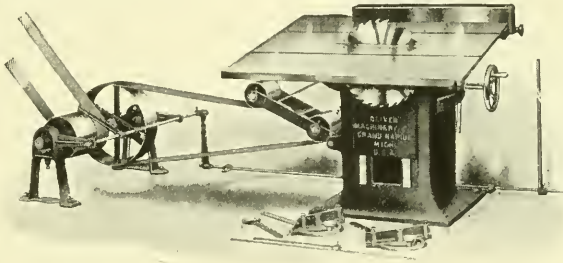

Fig. 232
90. **The Circular-saw** is the most generally useful machine, and the rapidly revolving saw cuts with speed, ease, and accuracy. Large circular-saws are used for sawing logs. In the smaller sizes for shop-work the saw projects through a bench or table-top (Fig. 232) on which the wood to be cut rests. As both splitting and cross-cutting saws are used, most of the common operations of hand-sawing can be done with the circular-saw, and also many special operations. Adjustable guides or gauges are fitted to the saw-bench top so that different lengths, widths, and angles can be cut. Fig. 232 is a typical illustration of a modern circular-saw bench. Fig. 233 shows the
The circular splitting-saw cuts on the same principle as the hand splitting-saw (see page 25), although the teeth are often "swaged" (see page 138). As the saw revolves toward the operator, it must be fitted on the arbor so that the teeth on top point toward the front of the bench (Fig. 232).